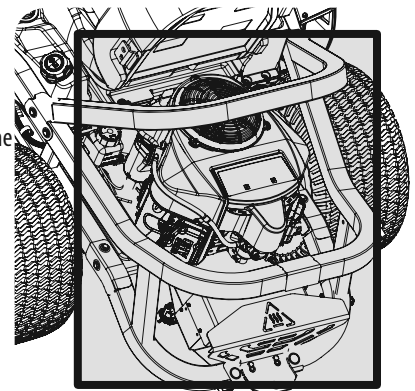

Figure 28
- Keep both sides of transmission cooling slots, exhaust manifold, around fuses, all wiring and harnesses, muffler pipe, muffler shield, engine intake screens and cooling fins, etc clear of grass clippings and leaves. See Figure 28.